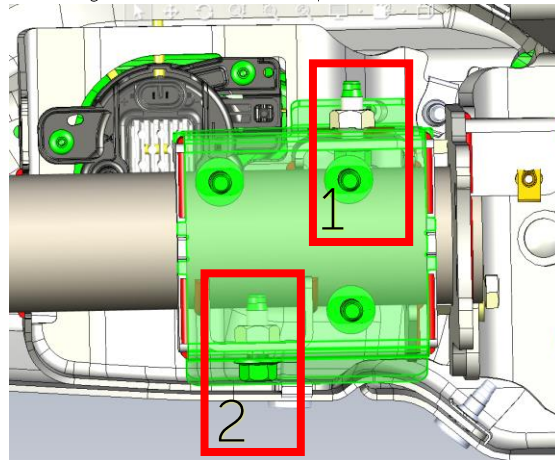

Figure 4 – Backside AEV Frame Bracket
b. Loosely install [2] M10 Bolts (11588738) with M15 Socket per side – Fig. 4